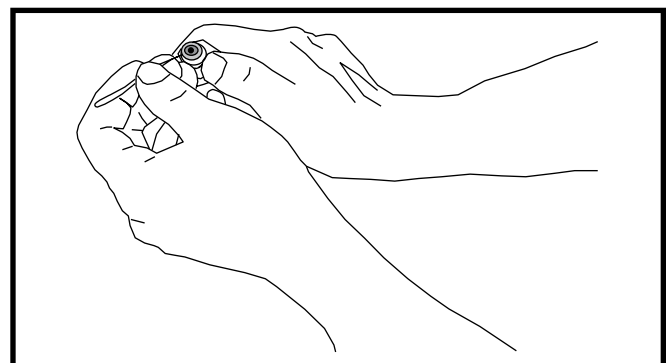

Figure 3. Removal of Orifice
2. Insert a light-gauge wire hook between the valve body and the restrictor orifice (Figure 3, page 5) while being careful not to scratch either part. Carefully remove the restrictor orifice from the valve body.